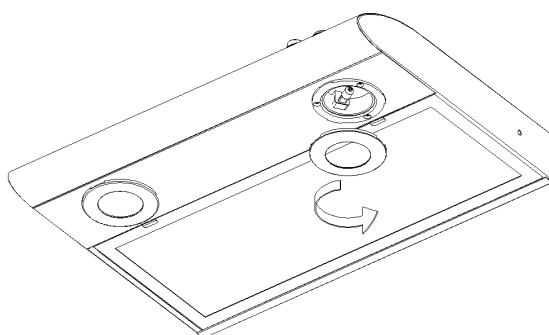

Figure 5
- 1) Remove the trim ring by turning it counterclockwise (see figure 5).